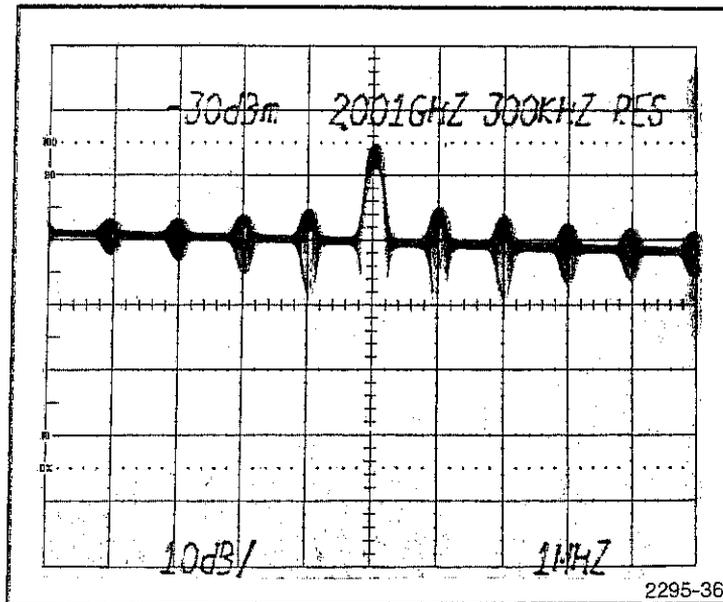

Fig. 4-28. 1 MHz Beat Notes as Seen on the Display for Calibrating the 1st LO FM Coil Drive.
c. Tune the CENTER FREQUENCY to keep the beat nodes aligned with the graticule lines while the FM Coil Gain, R1389, (see Fig. 4-24) is adjusted for one marker/div (see Fig. 4-28).